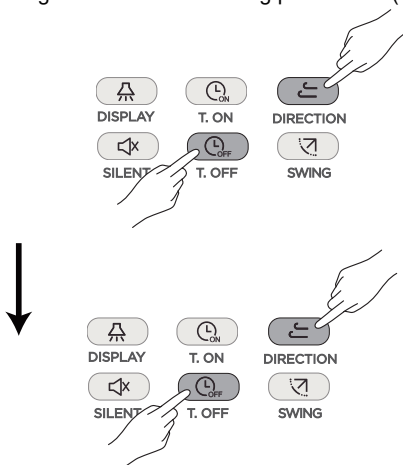

Figure 4.7
② Press  and  to adjust the parameter code;
③ Press  to enter the parameter setting interface, then press the "" and "" keys to adjust the parameter value, refer to the advanced parameter setting list to select the setting parameters. (see Figure 4.7);